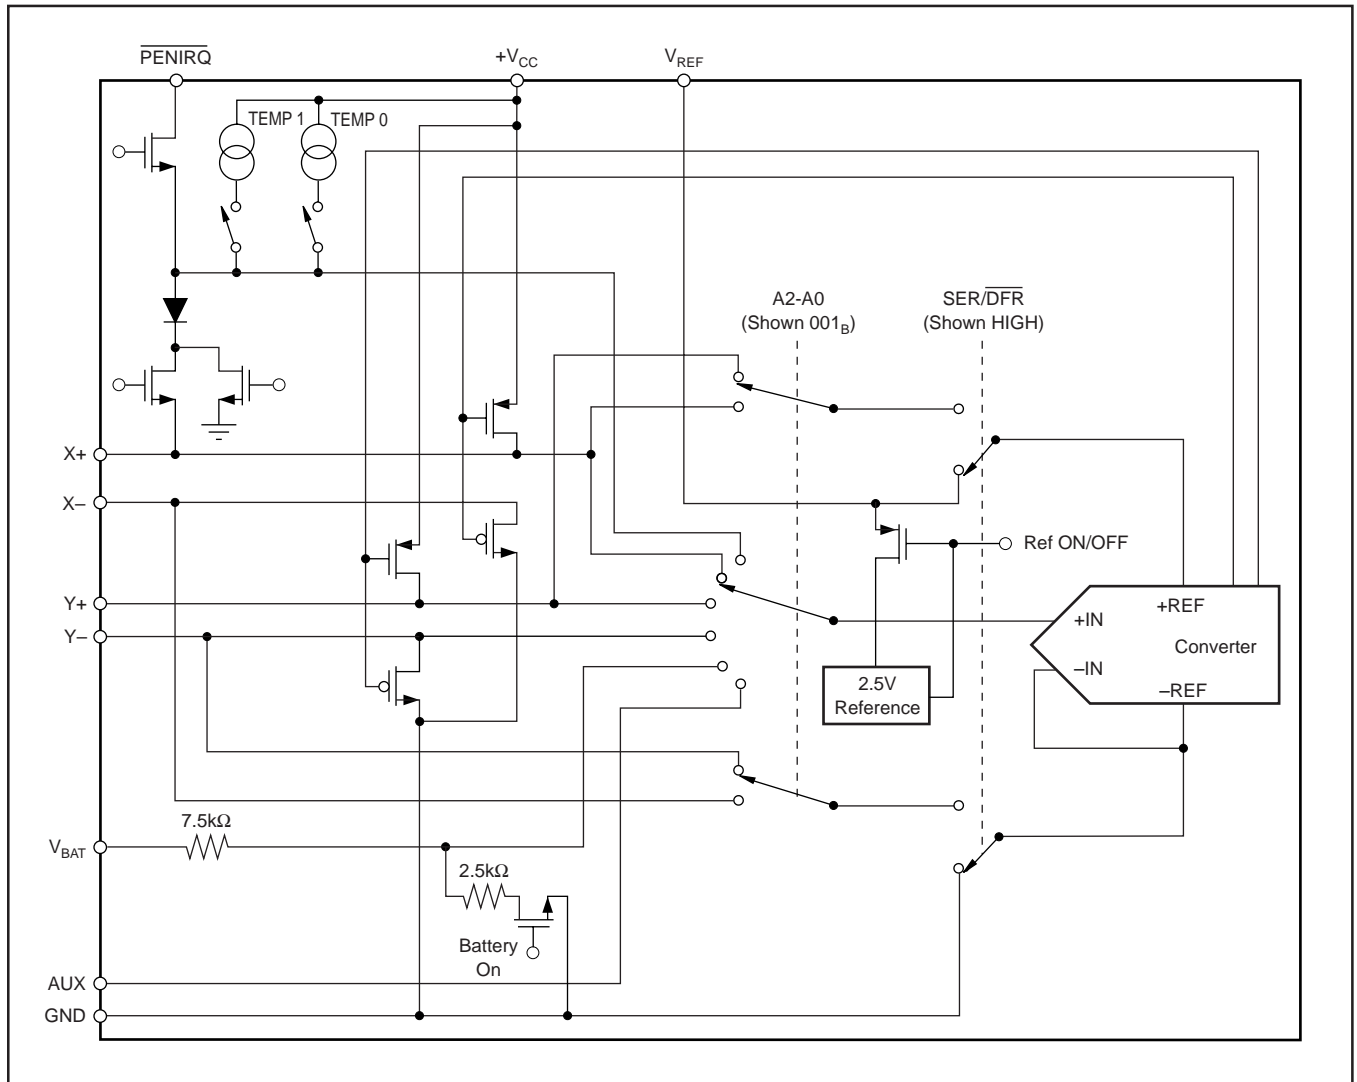

FIGURE 2. Simplified Diagram of Analog Input.
Figure 2 shows a block diagram of the input multiplexer on the ADS7846, the differential input of the A/D converter, and the converter's differential reference. Table I and Table II show the relationship between the A2, A1, A0, and SER/DFR control bits and the configuration of the ADS7846. The control bits are provided serially via the DIN pin—see the Digital Interface section of this data sheet for more details.
When the converter enters the hold mode, the voltage difference between the +IN and -IN inputs (see Figure 2) is captured on the internal capacitor array. The input current on the analog inputs depends on the conversion rate of the device. During the sample period, the source must charge the internal sampling capacitor (typically 25pF). After the capacitor has been fully charged, there is no further input current. The rate of charge transfer from the analog source to the converter is a function of conversion rate.
The voltage difference between +REF and -REF (see Figure 2) sets the analog input range. The ADS7846 will operate with a reference in the range of 1V to +VCC. There are several critical items concerning the reference input and its wide voltage range. As the reference voltage is reduced, the analog voltage weight of each digital output code is also reduced. This is often referred to as the LSB (Least Significant Bit) size and is equal to the reference voltage divided by 4096. Any offset or gain error inherent in the A/D converter will appear to increase, in terms of LSB size, as the reference voltage is reduced. For example, if the offset of a given converter is 2 LSBs with a 2.5V reference, it will typically be 5 LSBs with a 1V reference. In each case, the actual offset of
**Addressing**—The next three bits (A2, A1, and A0) select the active input channel(s) of the input multiplexer (see Tables I, II, and Figure 2), touch-screen drivers, and the reference inputs.
**SER/DFR**—The SER/DFR bit controls the reference mode, either single-ended (HIGH) or differential (LOW). The differential mode is also referred to as the ratiometric conversion mode. The differential mode is preferred for X-Position, Y-Position, and Pressure-Touch measurements for optimum performance. The reference is derived from the voltage at the switch drivers, which is almost the same as the voltage to the touch screen. In this case a reference voltage is not needed, as the reference voltage to the A/D converter is the voltage across the touch screen. In the single-ended mode, the converter’s reference voltage is always the difference between the  $V_{REF}$  and GND pins. See Tables I and II, and Figures 2 through 4 for further information.